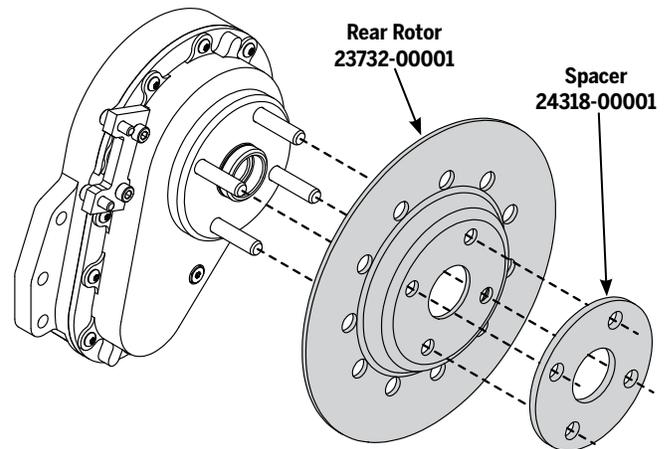

Figure 97: Rear Rotor
7. Remove the Rotor and Spacer. See Figure 97. Place the rotor on a clean surface.
3. Install the Rotor and Spacer. See **Figure 97**.